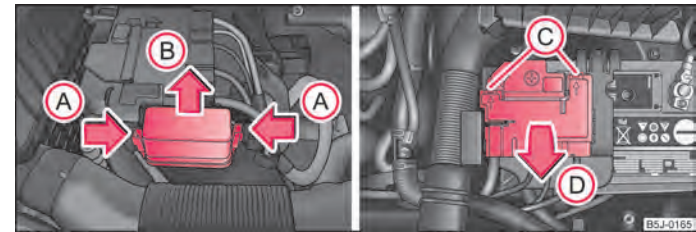

Fig. 148 The battery: fuse cover
- Press together the interlocks of the fuse cover simultaneously in direction of arrow (A) ⇒ fig. 148 and push out the cover in direction of arrow (B).
- Release the fixtures in the openings (C) using a flat screwdriver and fold the cover upwards in direction of arrow (D).